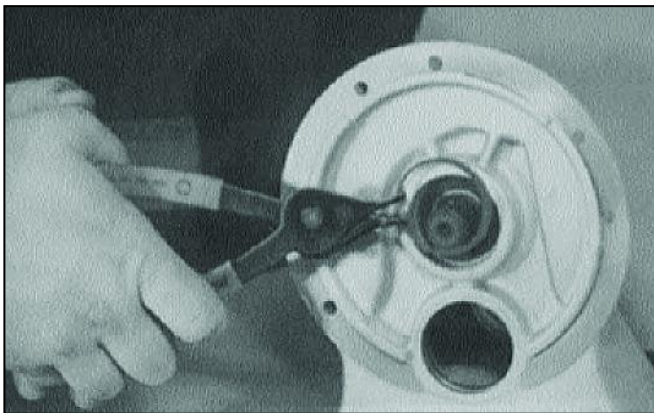

Figure 7-19
- See Figure 7-19. Install outer snap ring (4) at input shaft bore.